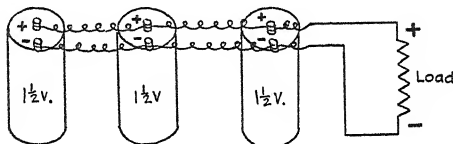

FIG. 63. Parallel connections for greatest current.
73. **Connections for Most Current.** Paralleled batteries or generators produce the greatest current. Figure 63 shows the
In a parallel battery connection, always be sure to connect all + terminals together, and all — terminals together, as shown in Figure 63.
In a parallel battery circuit, the voltage of all batteries must be the same. For example, in the circuit in Figure 63, the total voltage on the load will be the voltage of any individual cell, which is about 1.5 volts.